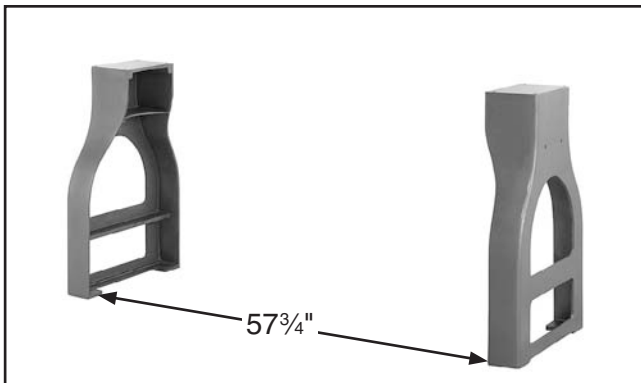

Figure 9. Supporting legs.
1. Position the right and left stand legs upright approximately 57³/₄" apart, and get them reasonably aligned (see **Figure 9**).